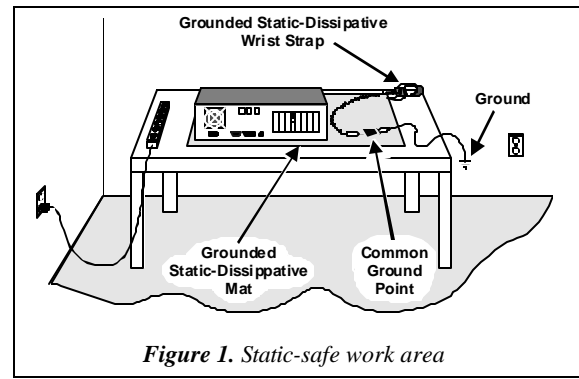

Figure 1. Static-safe work area
- Work at a static-safe work area (see Figure 1).